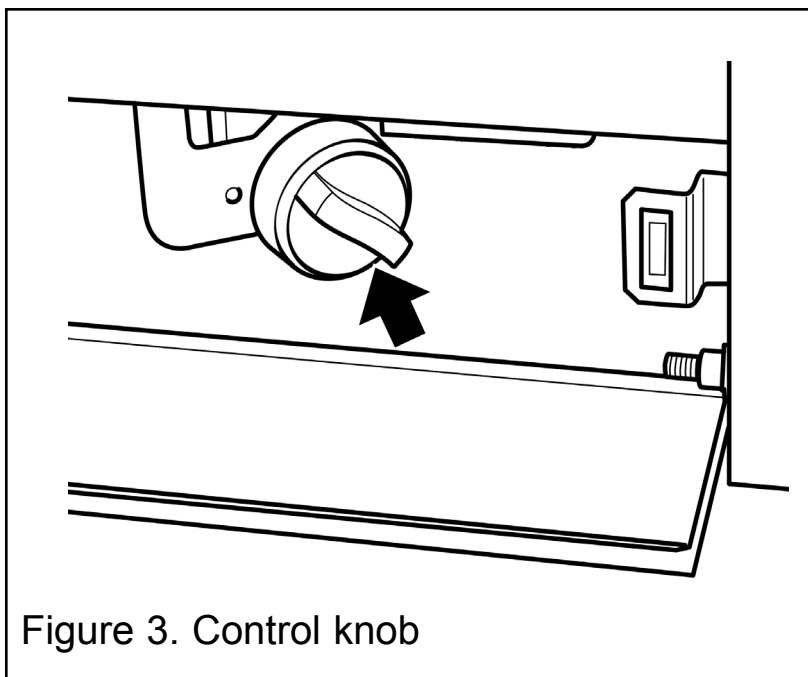

Figure 3. Control knob
- Depress the control knob and turn anticlockwise towards the PILOT/IGN position (See figure 3). A spark should be generated at the pilot while turning. The spark should ignite the pilot. The pilot flame can be seen at the left side of the pebbles.